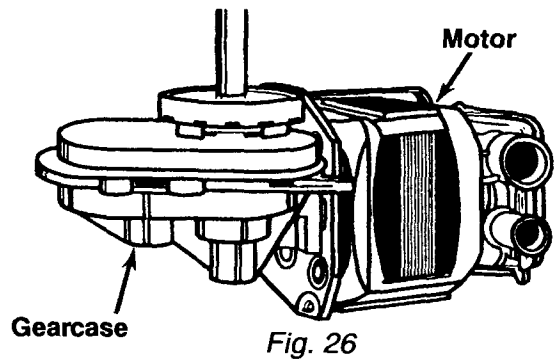

Fig. 26
- Once there is power to the timer motor, the timer will start to advance. You can hear the sound of the drive motor running. The motor is coupled directly to the gearcase (Fig. 26) and will turn in the agitate direction. The direction of current through the start winding determines the direction of motor rotation. When contacts 7 are closed, the motor turns counterclockwise.